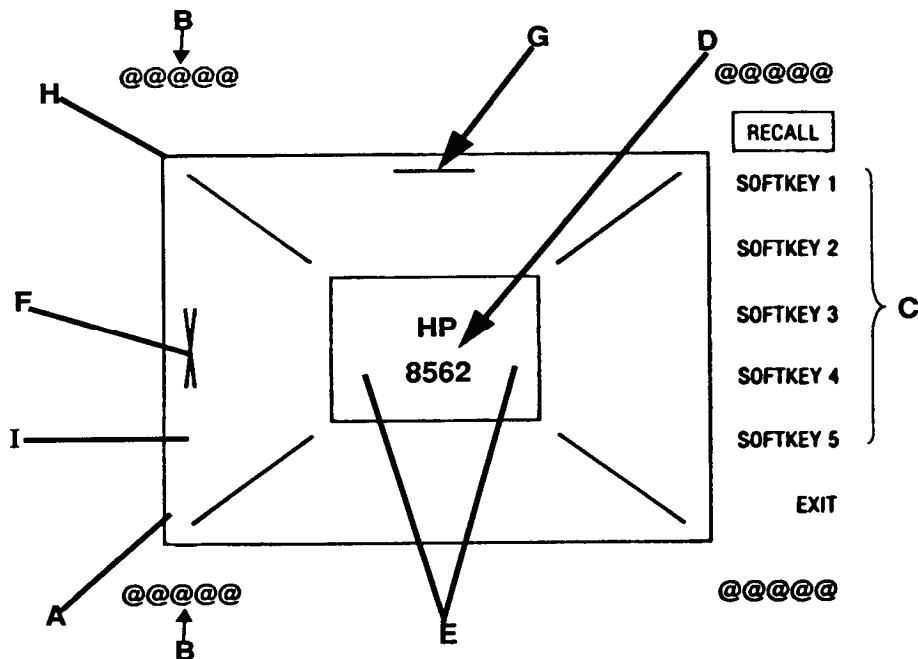

Figure 1. Crt adjustment pattern.
2. Refer to C in figure 1 for softkey location.
- c. Press TI keys as listed in (1) through (3) below:
- (1) **INSTRUMENT STATE RECALL**.
- (2) **[MORE]**.
- (3) **[CRT ADJ PATTERN]**.
- d. Adjust **TRACE ALIGN** (rear panel) until leftmost line of test pattern A (fig. 1) is parallel with crt bezel.
- e. Adjust **X POSN** (rear panel) until leftmost @ characters B (fig. 1) and softkey labels C (fig. 1) appear just inside left and right edges of crt bezel.
- f. Adjust **Y POSN** (rear panel) until the softkey labels C (fig. 1) align with the appropriate softkeys.